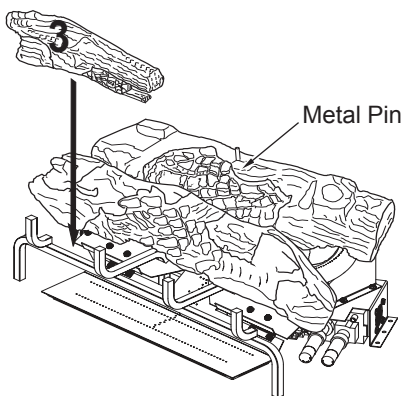

Figure 37- Installing Log # 3
3. Place the front left log (#3) onto the base assembly between the middle log and the grate. The back of the front left log will rest against the front of the middle log. The notch in the end of the front left log will fit around the grate bar. See Figure 37.